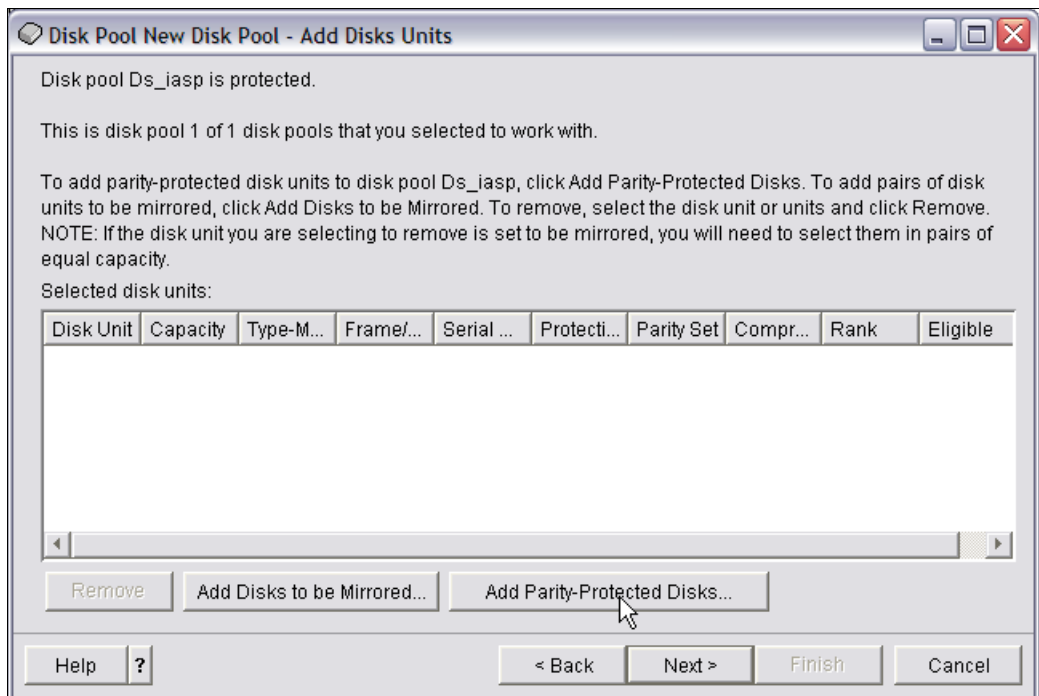

Figure 11-19 Add disks to disk pool
- In the Disk Pool New Disk Pool - Add Disks Units window (Figure 11-19), click **Add Parity-Protected Disks**. The disks or LUNs to be added can be partially protected.